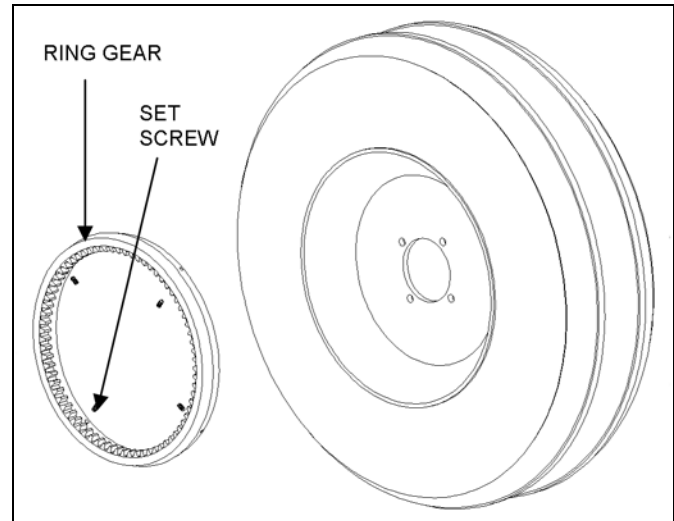

**Figure 3.2 Hydraulic Reservoir Installation**
1. Bolt the double tank mount brackets to the frame with 3/8" x 2-5/8" u-bolts and 3/8" nylock nuts (Figure 3.2).